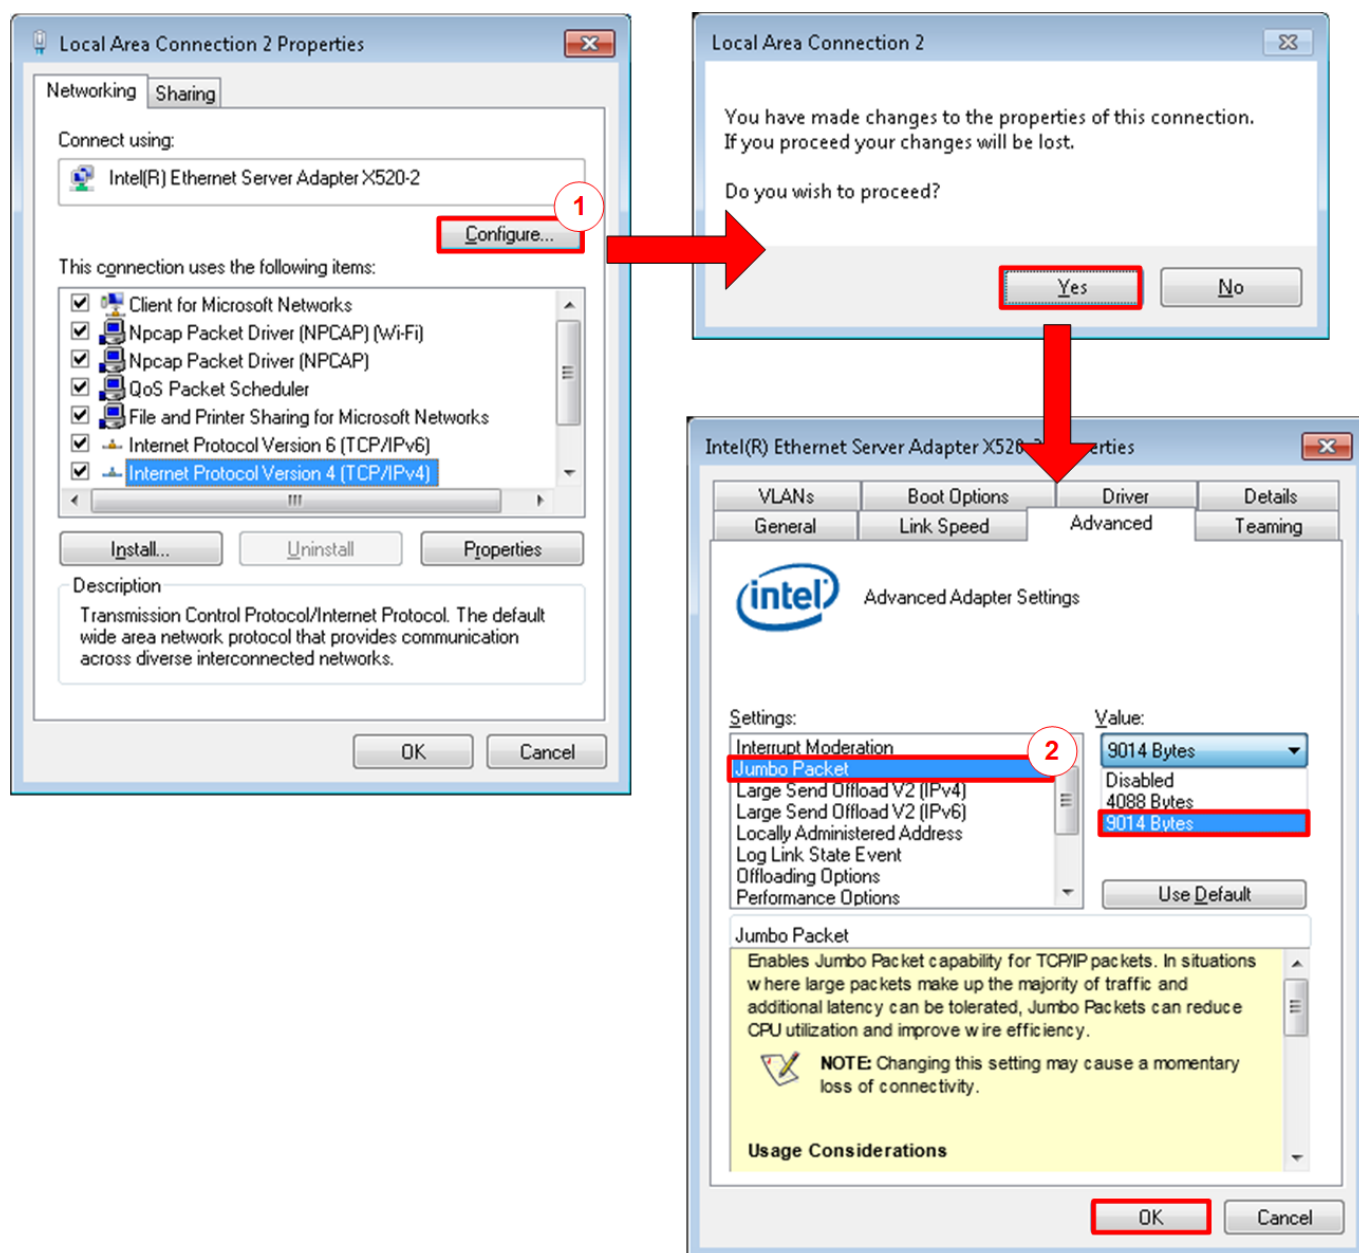

Figure 2-2 Set frame size = jumbo frame
- 1) On Local Area Connection Properties window, click “Configure” as shown in Figure 2-2.
- 2) On Advanced Tab, select “Jumbo Packet”. Set Value to “9014 Bytes” for Jumbo Frame support or set value to “Disabled” for non-Jumbo Frame support, as shown on the bottom window of Figure 2-2.